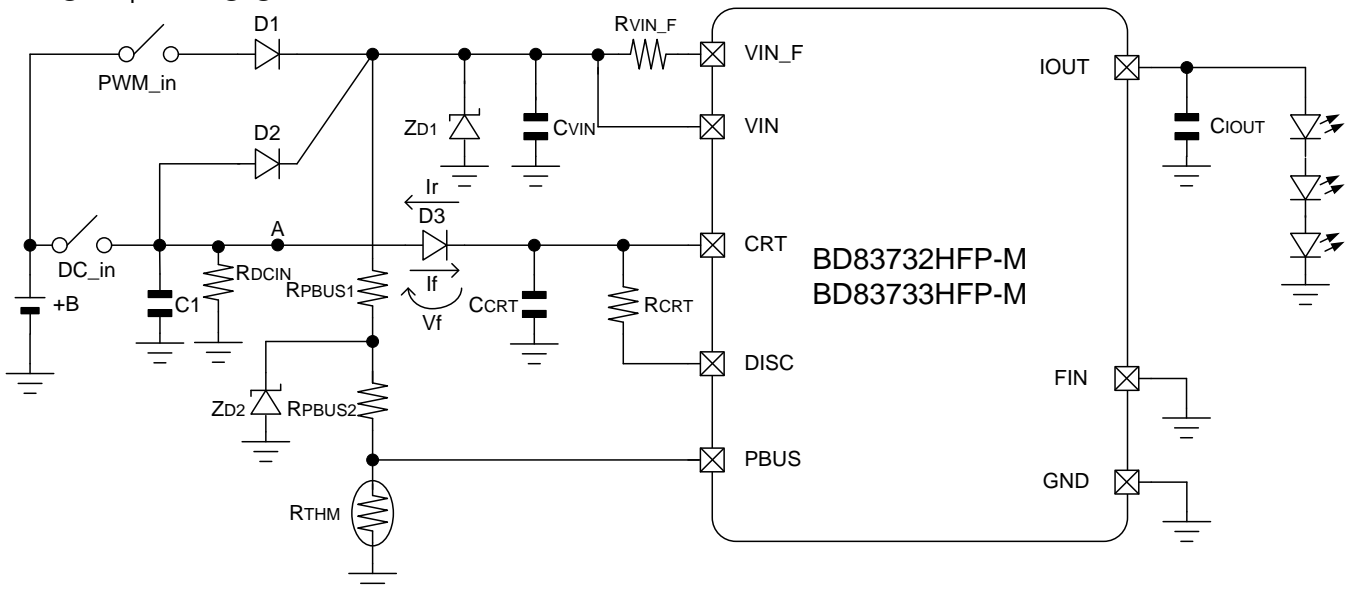

Figure 16. About the mechanism of deviation of CRT start-up / fall time due to the reverse connection prevention diode
In case you apply voltage the CRT over the reverse protection diode (D3) as the figure below (Figure 16), there is a possibility that the CRT rise time and fall time will deviate from the settings due to reverse current of diode (D3) affecting charge and discharge current to capacitance(C3). Reverse current I_r is getting high value with high temperatures, so the diode recommended by ROHM or a diode with reverse current characteristics below max $1\mu A$ needs to be considered. Besides, since reverse current causes also in the recommended diode, **a resistor of about $1k\Omega$ needs to be connected between the A-point and GND**, so that voltage in the A-point doesn't rise.
- ① During the PWM dimming operation mode, the A-point on Figure.16 becomes Hi-Z
- ② Reverse current I_r of D2 and D3 goes to the A-point